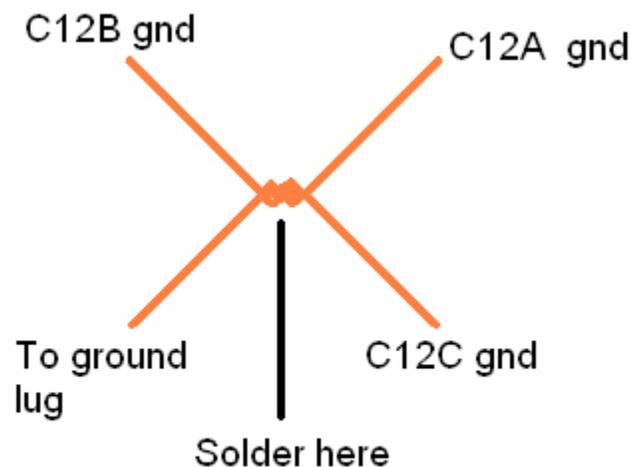

Figure 4-Ground Harness Configuration
- c. Twist and shape the wires as shown in Figure 4.